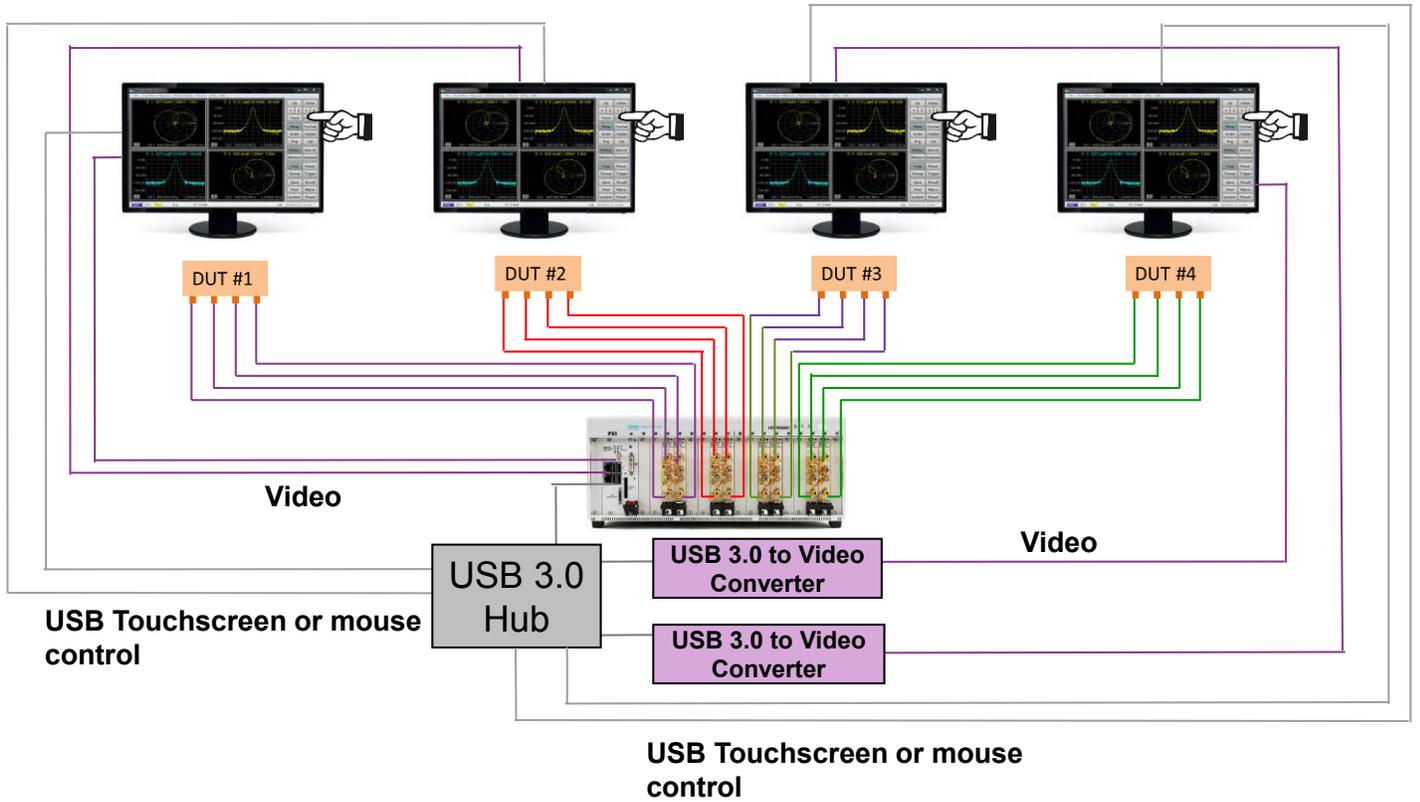
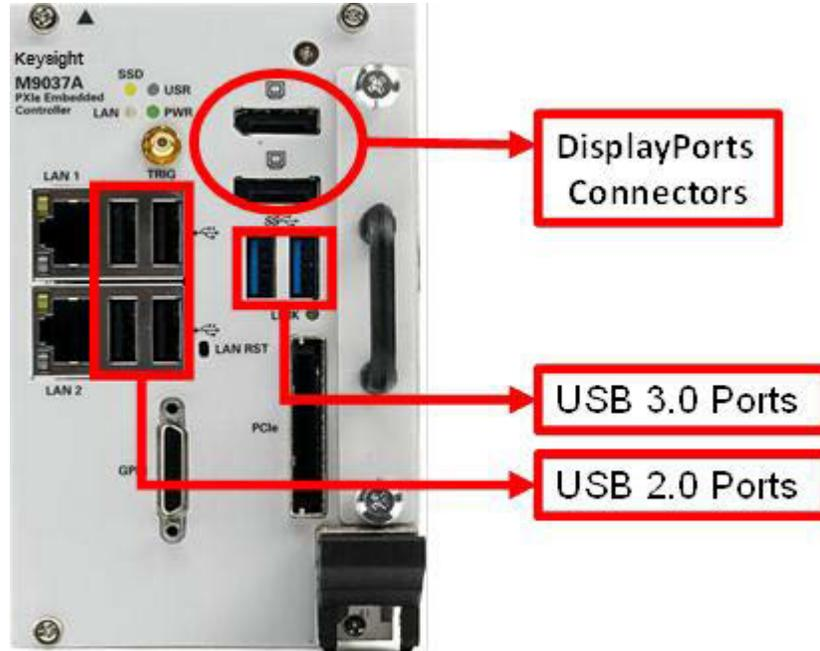

Figure 2. Enable multi-user test solutions.
Figure 3. Available display and USB Ports on the M9037A embedded controller.
Configuring the PXI VNA for multi-user setup requires the use of multiple computer display, USB to video convertor or USB to DVI and USB hub. Sometimes, manufacturers of USB to video or DVI convertors requires the installation of drivers. So, if required, please make sure to install the driver of the USB to video convertor before you plug it in to the controller. **Figure 2** shows a multi-user configuration using the Keysight M9037A embedded controller.
1. The embedded controller (M9037A) has two Display Ports outputs (Figure 3) which may be routed directly to two of the monitors (Figure 2).